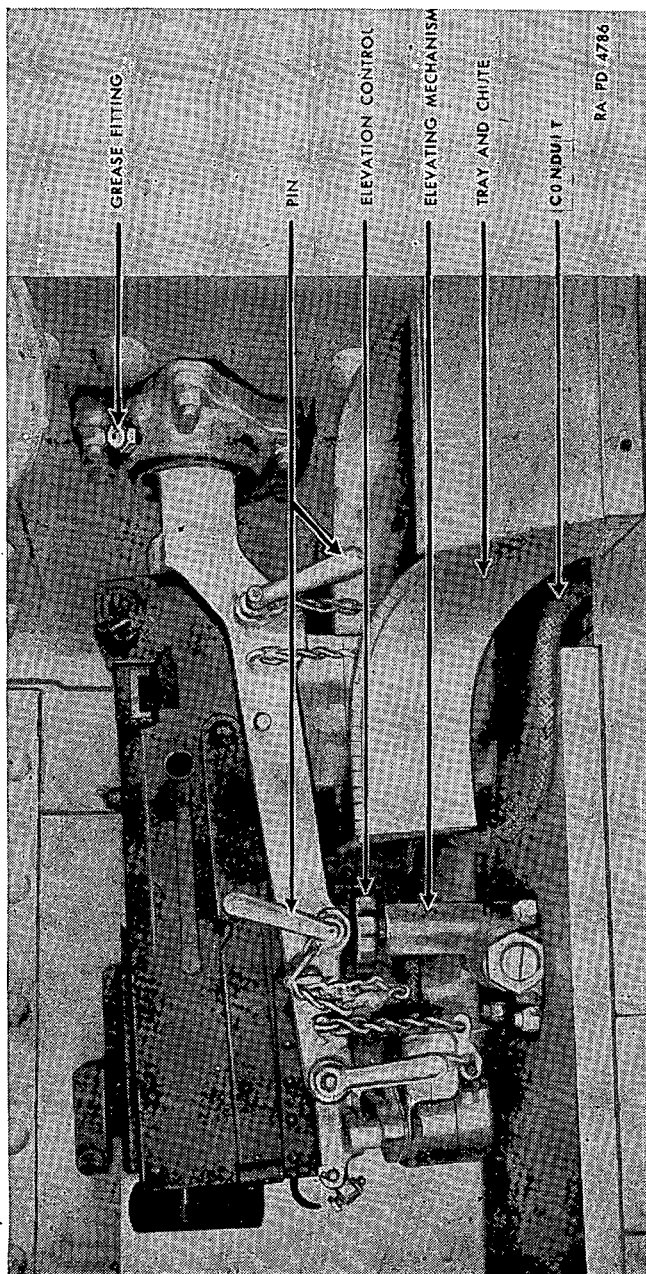

FIGURE 18.—Machine-gun mount, left sponson.
d. *Sponson mounts*.—A ball mount of the swivel type, mounting a caliber .30 machine gun, is located in each sponson (figs. 18 and 19). Elevation is adjusted manually and traverse is accomplished by the steering of the vehicle. The sponson guns are fired electrically by the driver by compressing the switches near the top of each steering lever. Each switch connects with and fires its respective gun. The guns may also be fired manually by conventional triggers. Lubricate the ball mounts as shown on lubrication chart (fig. 13).